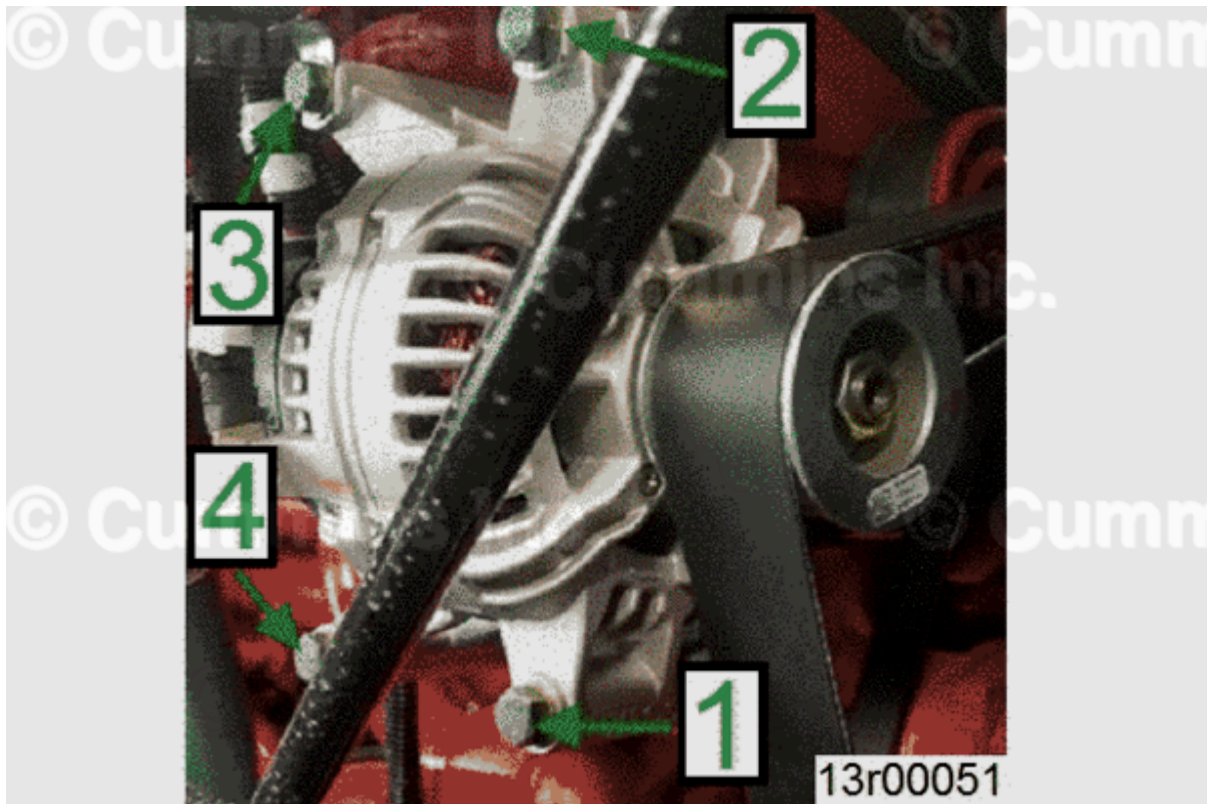

Figure 1, Charging System Alternator Mounting Torque Sequence.
- See Figure 1 below for charging system alternator capscrew torquing sequence.